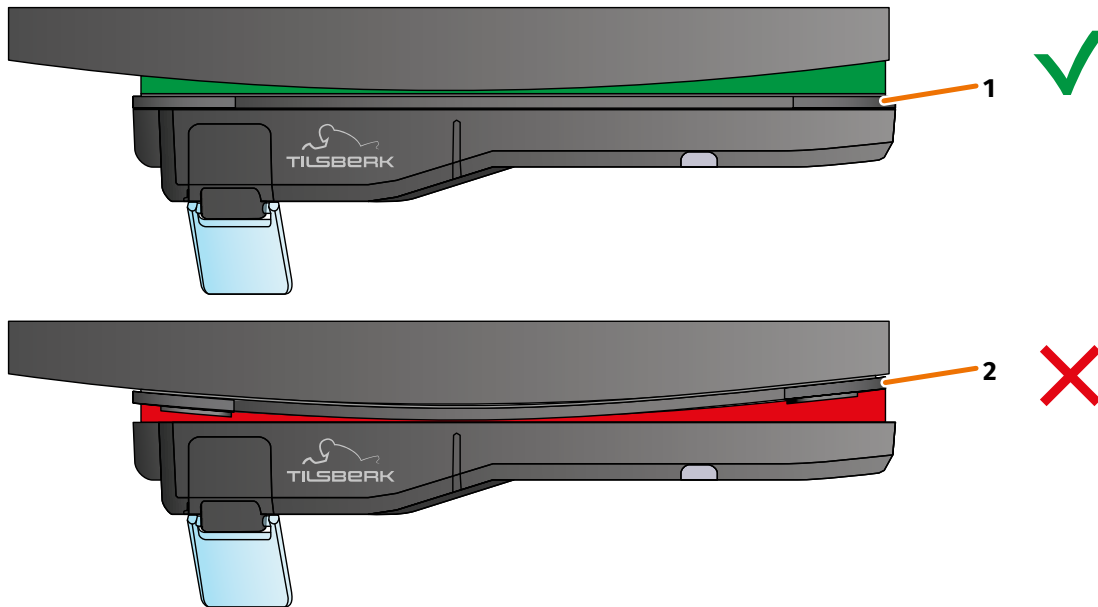

FIGURE 11: Example: straight and curved mounting surface
- Check whether the helmet adapter sits correctly on the helmet. To do so, use the magnets to attach the TILSBERK HUD module to the helmet adapter. The TILSBERK HUD module must be completely in contact with the helmet adapter. There must be no visible gap between the TILSBERK HUD module and the helmet adapter (FIGURE 11/1).
A slight curvature in the mounting surface can be compensated by the adhesive pad. If the mounting surface is highly curved and the helmet adapter does not sit correctly against the mounting surface (FIGURE 11/2), choose the mounting variant using Sugru (Chapter “3.6 Mounting variant D: using Sugru to glue in the narrow helmet adapter” on page 28).